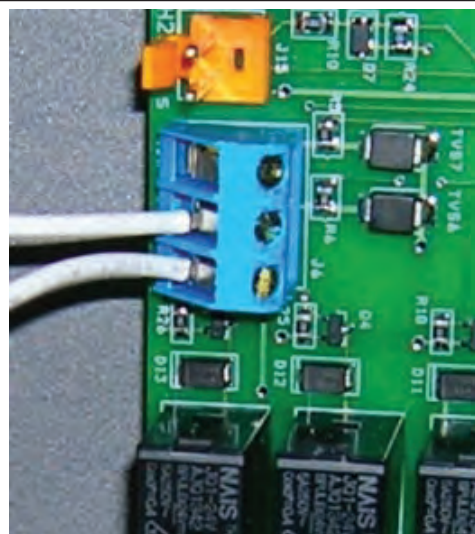

Figure 24. AquaLink RS or Remote TSTAT Connection (2-Wire Connection)
4. Connect the wiring from the pool/spa control system to the heater remote control terminal (see Figure 24).